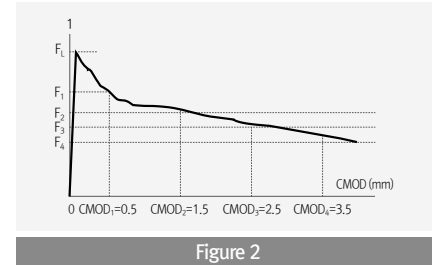

Figure 2
- Then, maximum flexural strength and residual flexural strength ratio can be calculated based on the load displacement curve (figure 2) obtained from the test.